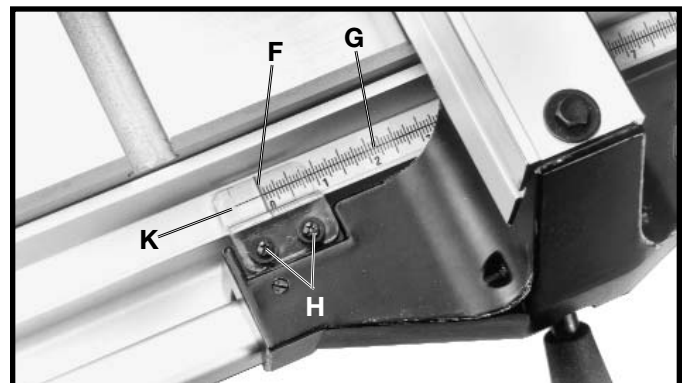

Fig. 49
7. The cursor witness line (F) Fig. 49, should line up with the "zero" mark on scale (G). If the witness line does not line up with the "zero" line on the scale, loosen two screws (H) and adjust cursor (K).